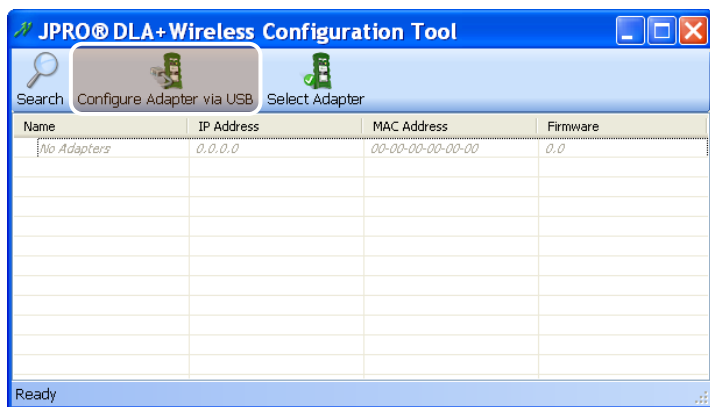

Figure 14
4. Click the **Configure Adapter via USB** button on the toolbar (see highlighted box in Figure 14 below).